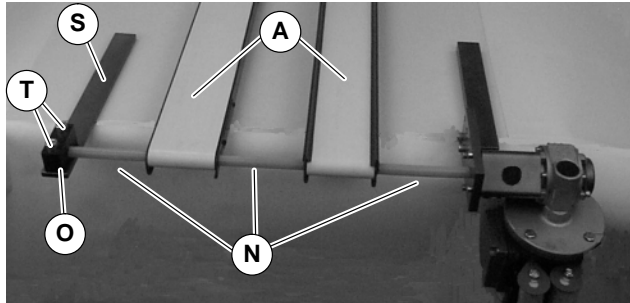

Figure 9
13. Remove screws (T of Figure 9) and remove bearing block (O).
14. Slide hex shaft through conveyors (A of Figure 9) and shaft cover pieces (N) and into flex coupling.
15. Attach bearing block (O of Figure 9) to bearing support bar (S) with screws (T). Tighten screws (T) to 35 ft-lb (45.5Nm).